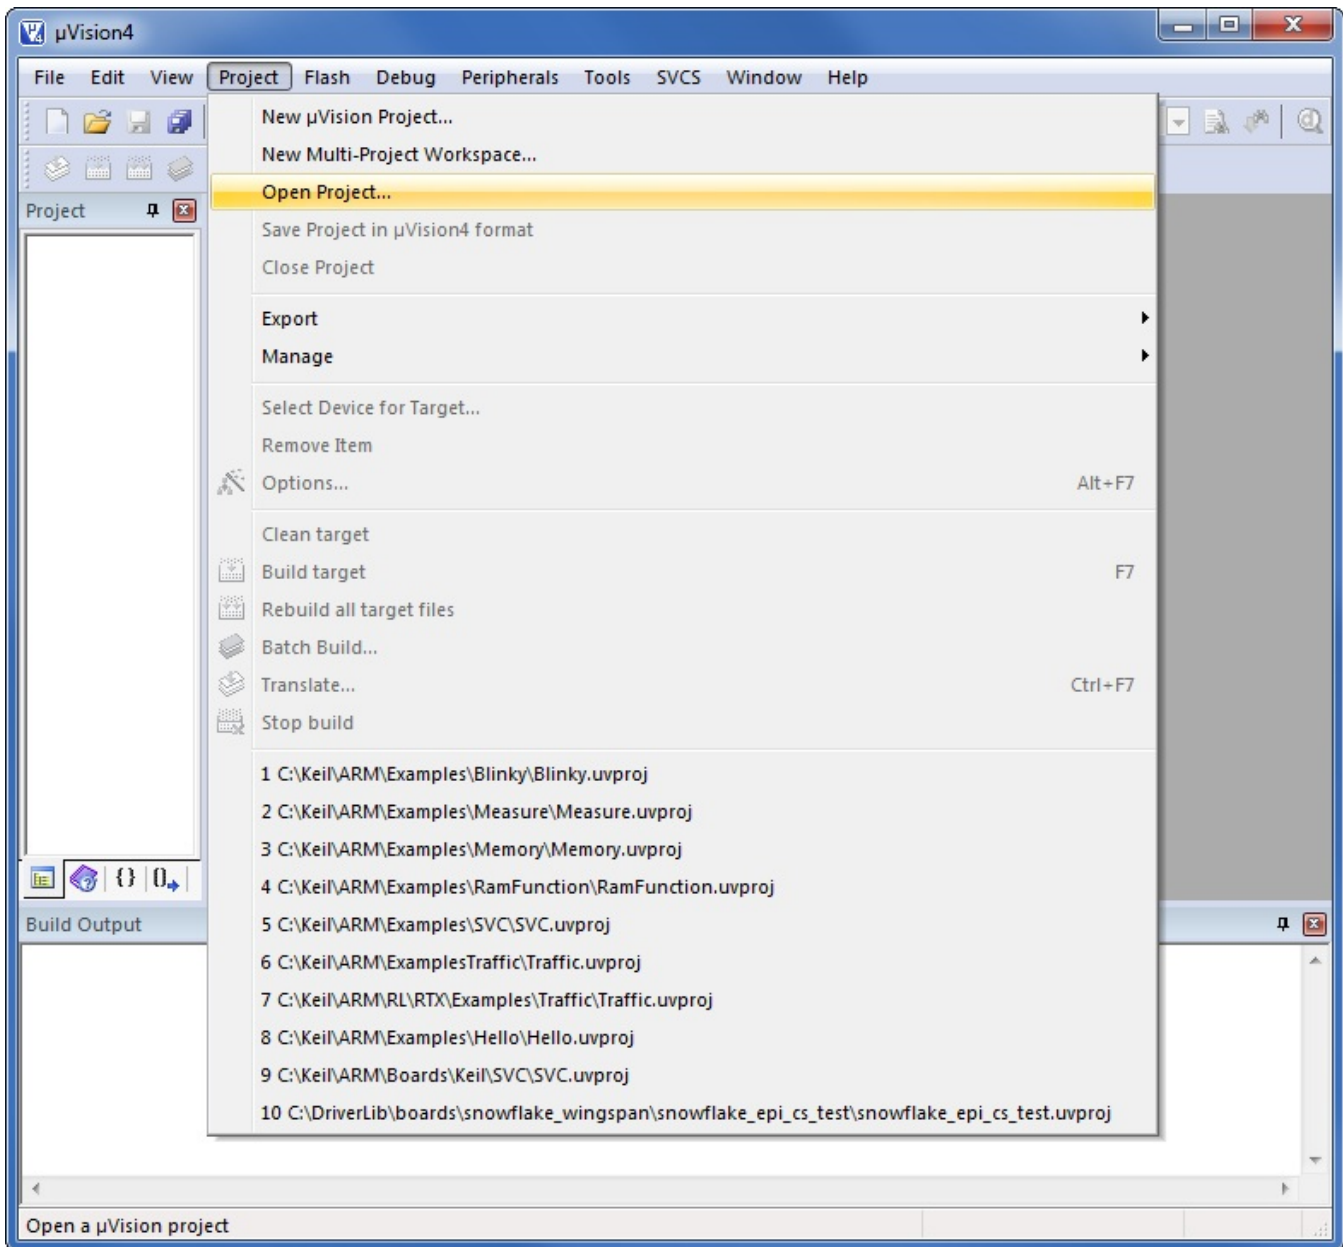

Figure 2.
- From the Project menu, select Open Project... (see Figure 2).